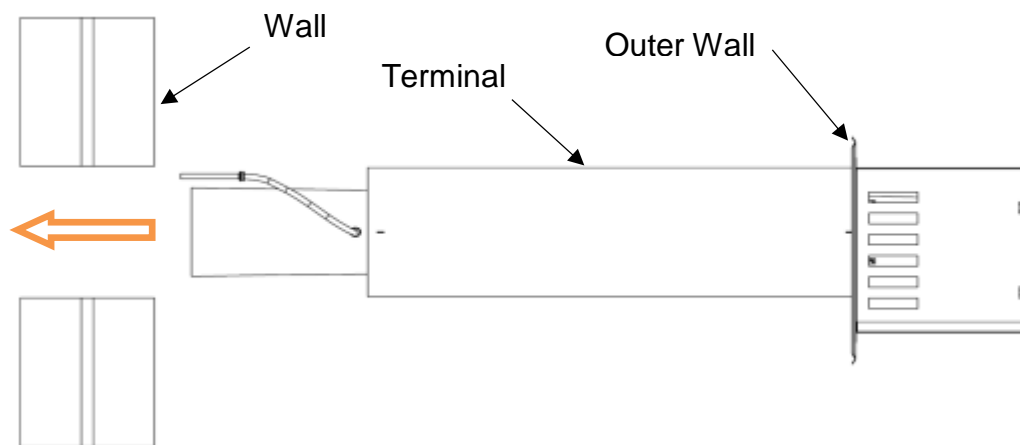

Figure 1 – Terminal installation (Step 1 to 4)
4. From the outside of the building, insert the outer section through the hole until rests against the wall. See figure 1.